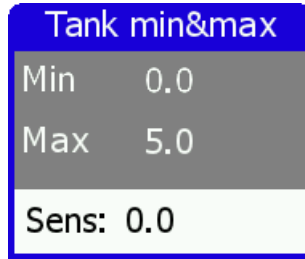

Figure 45: Window for setting the tank minimum and maximum values. Your values will be different.
4. Select the *Tank:T1 min/max* from the menu. Figure 45 shows an example.